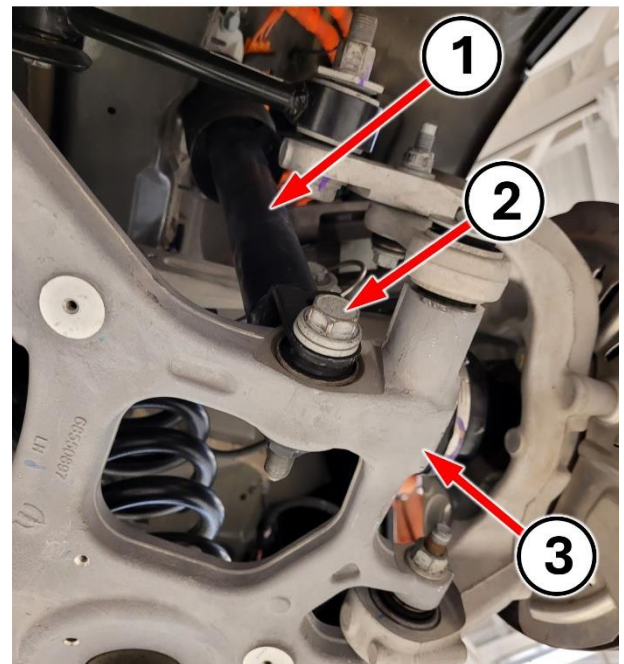

Figure 21 – Rear Shock Absorber
- 51. Both right side and left side: Remove the bolt securing the shock absorber lower ends to the lower control arms (Figure 21).